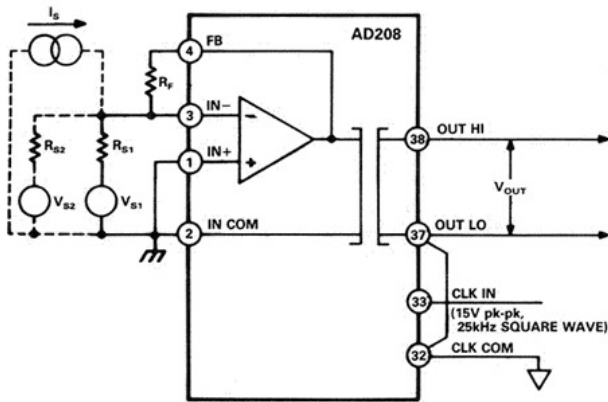

Figure 32. Summing or Current Input Configuration
**Summing or Current Input Configuration.** Figure 32 shows how the AD208 can accommodate current inputs or sum currents or voltages.
The circuit of Figure 32 can also be used when the input signal is larger than the  $\pm 5$  V input range of the isolator. For example, suppose that in Figure 32 only  $V_{S1}$ ,  $R_{S1}$  and  $R_F$  are connected to the feedback, input and common terminals as shown by the solid lines in Figure 32. Now, a  $V_{S1}$  with a  $\pm 50$  V span can be accommodated with  $R_F = 20$  k $\Omega$  and  $R_{S1} = 200$  k $\Omega$ .